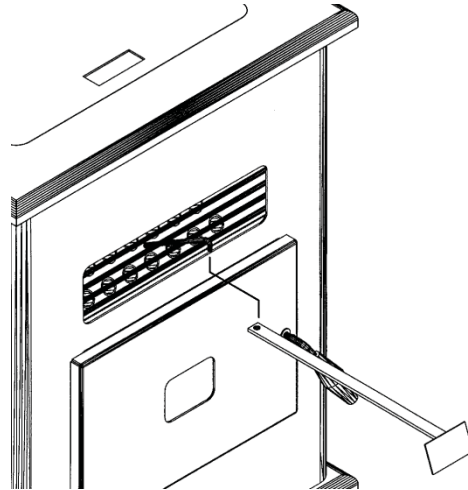

FIGURE 15
- Clean heat exchanger tubes (see "**CLEANING**" and Figure 15).
- a. **Heat Exchange Tubes** – Your Breckwell Big E stove is designed with a built-in heat exchange tube cleaner. This should be used every two or three days to remove accumulated ash on the tubes, which reduces the efficiency of your unit. Insert the handle end (with hole) of the cleaning tool onto the cleaning rod (refer to figure 15). The cleaner rod is located in the grill above the stove door. Move the cleaner rod back and forth several times to clean the heat exchanger tubes. When finished be sure to leave tube cleaner at the rear of the stove.